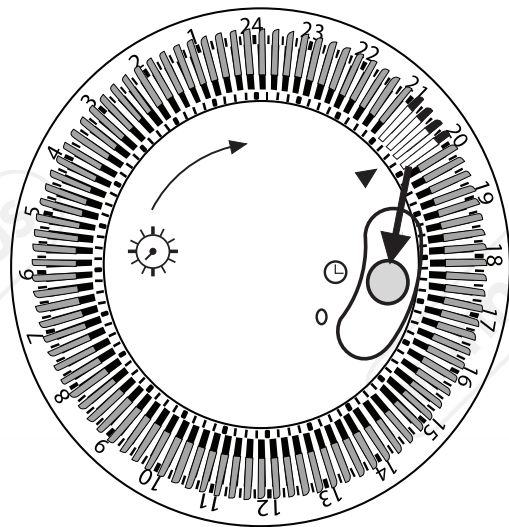

Fig 2
3. Move the timer switch to symbol "☀" to enable the timer (Fig 2).